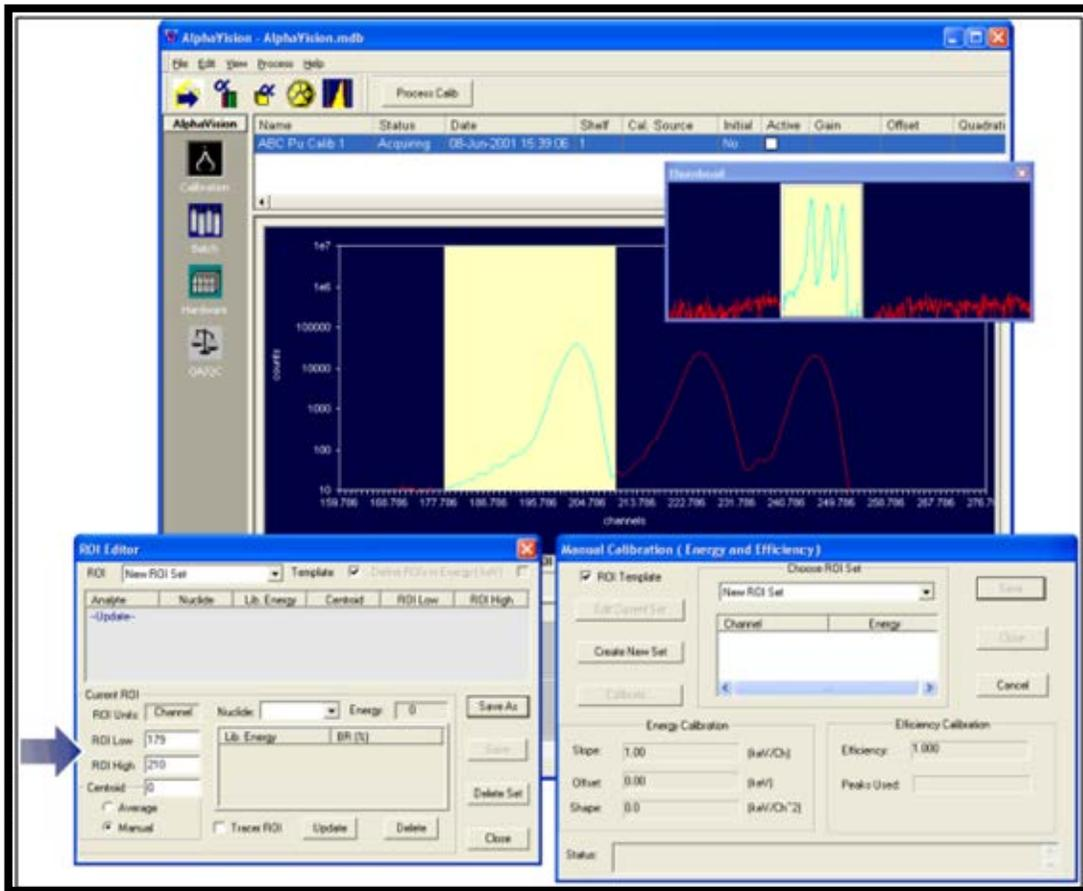

Figure 160. With <Ctrl>+Mouse, Mark the ROI by Dragging the Cursor from Low to High Channel
- d. In the Spectrum Window, locate the lowest-energy peak to be used in this set. In this example that will be ^{148}Gd . Hold down the **<Ctrl>** key, left-click the low-channel end of the ROI, drag the mouse to the high-channel end, then release the mouse button and the **<Ctrl>** key. The **Low** and **High** channels (in this example, 179 and 210, respectively) will be automatically entered in the ROI Editor (Figure 160).